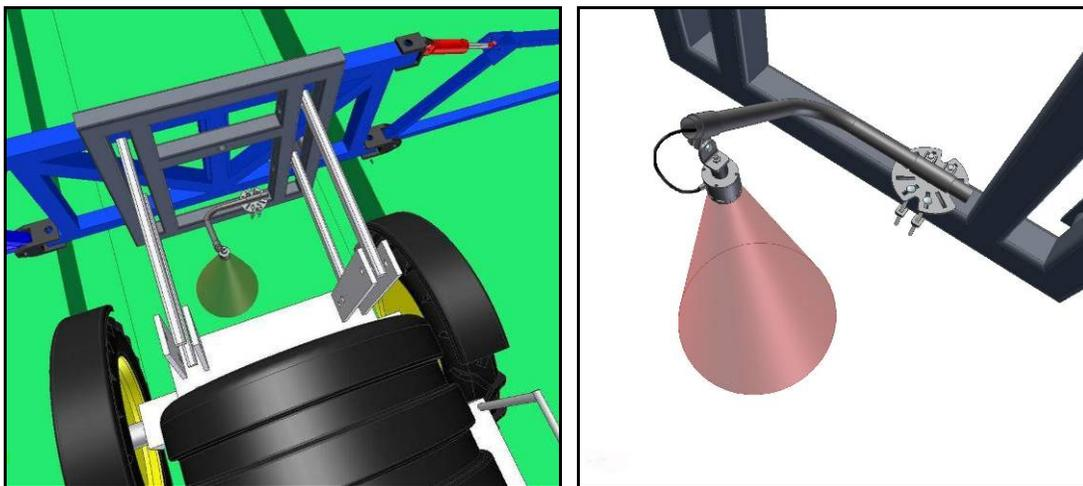

Figure 11: Example Mounting of the Main Lift Bracket
1. There are a variety of ways to mount the main lift bracket on most sprayers. The bracket should position the sensor approximately in the center of the sprayer, forward of the boom. An example of this mounting is illustrated in **Figure 11**.